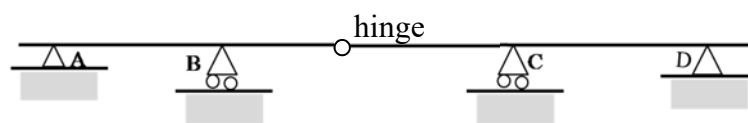

Figure 6/Rajah 6
6. [a] **Figure 6** shows an analytical model of a three-span beam. The beam is pinned supported at A, D and roller supported at B, C. Check statical determinacy of the beam.